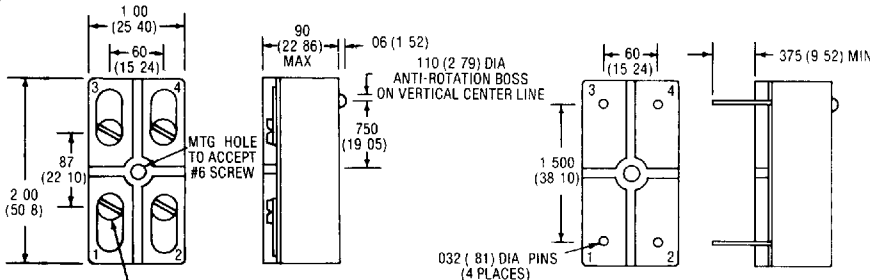
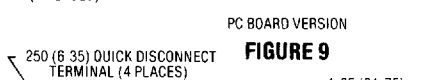
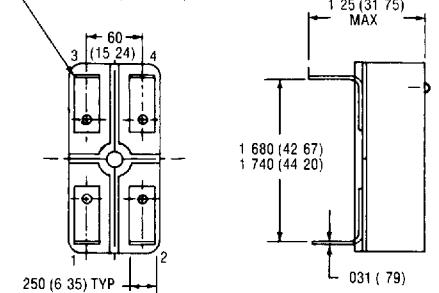

FIGURE 8
FIGURE 9
FIGURE 10
1. Basic part number provides for screw terminals only (Fig. 8). For PC Board pins add suffix "P" to part number (Fig. 9). For quick disconnect terminals, add suffix "Q" (Fig. 10).